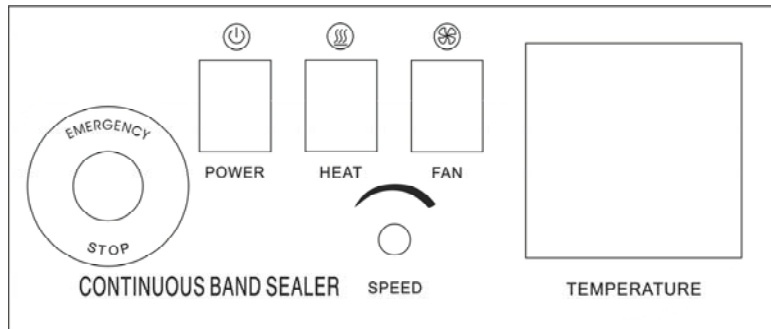

Figure 4
6.1 Control panel (see Fig. 4)